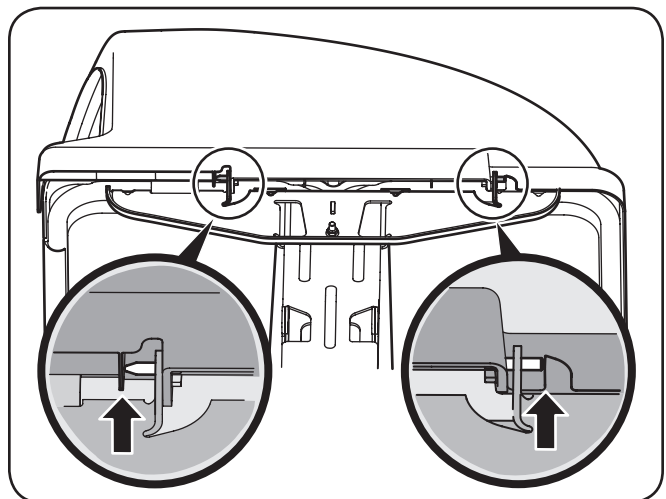

**Figure 4-9**
4. Install the bagger cover onto the bag support assembly, as shown in Figure 4-9. The plastic cover goes inside of the two mounting tabs.